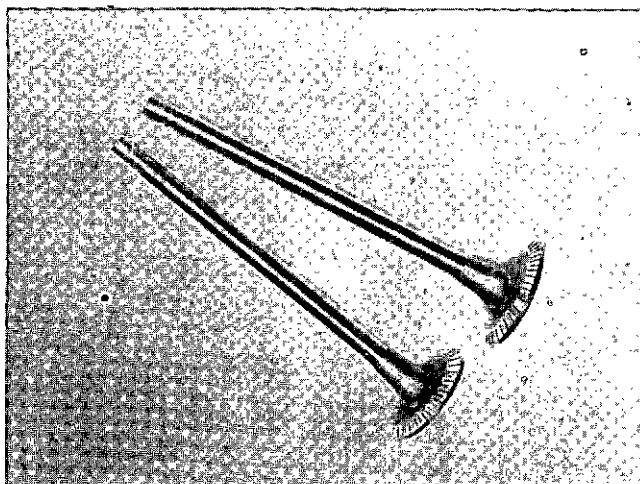

Fig. 2-5-4, N20217. Pencil marks on valves
7. Check valve in a guide and against a newly ground valve seat face. Pencil mark valve and drop into position; rotate valve 10 deg. A good seat will be indicated if all pencil marks are broken. Fig. 2-5-4. If pencil marks are not broken, valve seat tools need dressing or machine has not been properly adjusted; final check should be made with a vacuum testor. See "Testing Valve Seating."